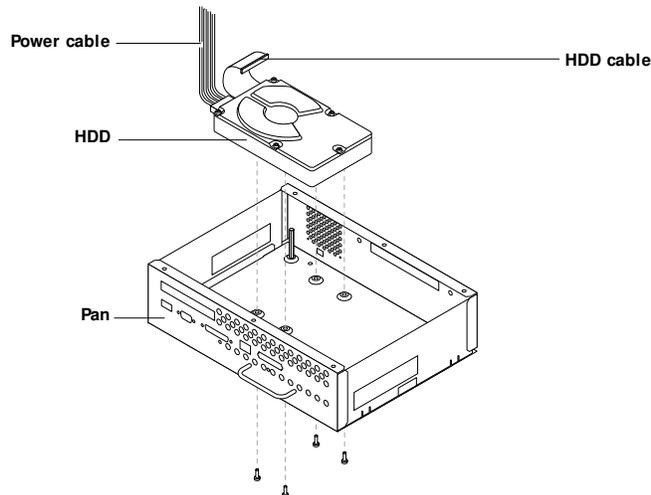

FIGURE 4-14 Replacing the HDD
6. **With the pan on its side, remove the four screws on the bottom of the pan that secure the HDD (see Figure 4-14).**
3. **With the pan on its side, align the four holes in the bottom of the HDD with the holes in the bottom of the pan and replace the four screws you removed earlier (see Figure 4-14 on page 4-19).**